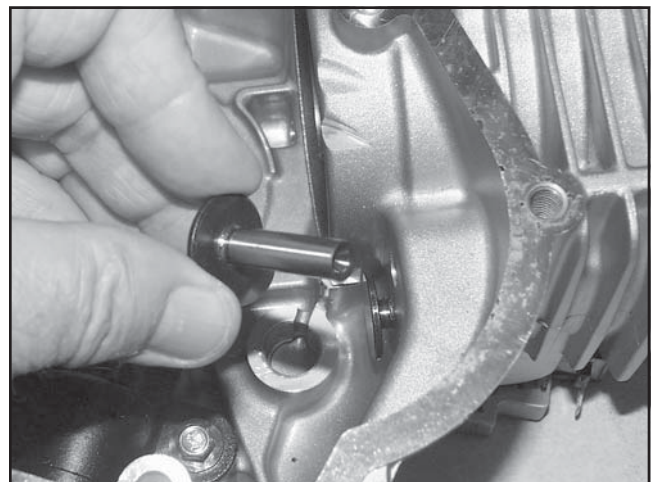

Figure 11-28. Tappet Installation.
1. Lubricate the face and stem of each tappet with engine oil. Install each into their respective bores. See Figure 11-28.